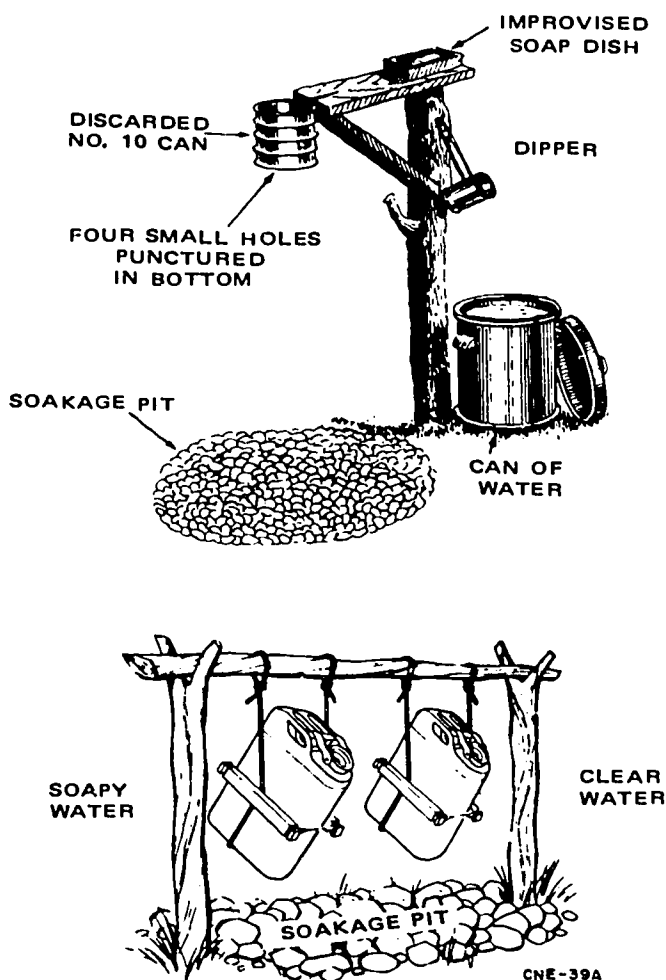

Figure 2-2. Hand-washing device.
**Hands.** Keep your fingernails closely trimmed and clean. Wash your hands (with soap and warm water if available) after any dirty work, after each visit to the latrine, and before touching food or food utensils. As shown in figure 2-2, effective hand-washing devices can be improvised. Such habits as nose-picking, nail biting, and unnecessary scratching can cause contamination of your hands and of the things that you touch later. These habits, which are unpleasant to see and unhealthy for you, should be broken. Coughs and sneezes should be smothered in a tissue or